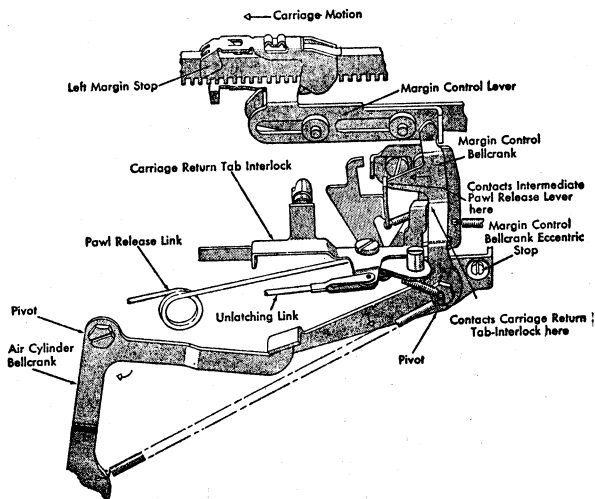

Figure 46. Margin Control Bellcrank Eccentric Stop
12. THE MARGIN CONTROL BELLCRANK ECCENTRIC STOP is an eccentric stud or washer. In either case it is positioned so that the margin control lever has maximum motion left to right without restricting the movement of the tab check lever when the margin control bellcrank is against this stop (Figure 46).
14. CLUTCH UNLATCHING LINK. Adjust this link in the following manner: (Figure 46).